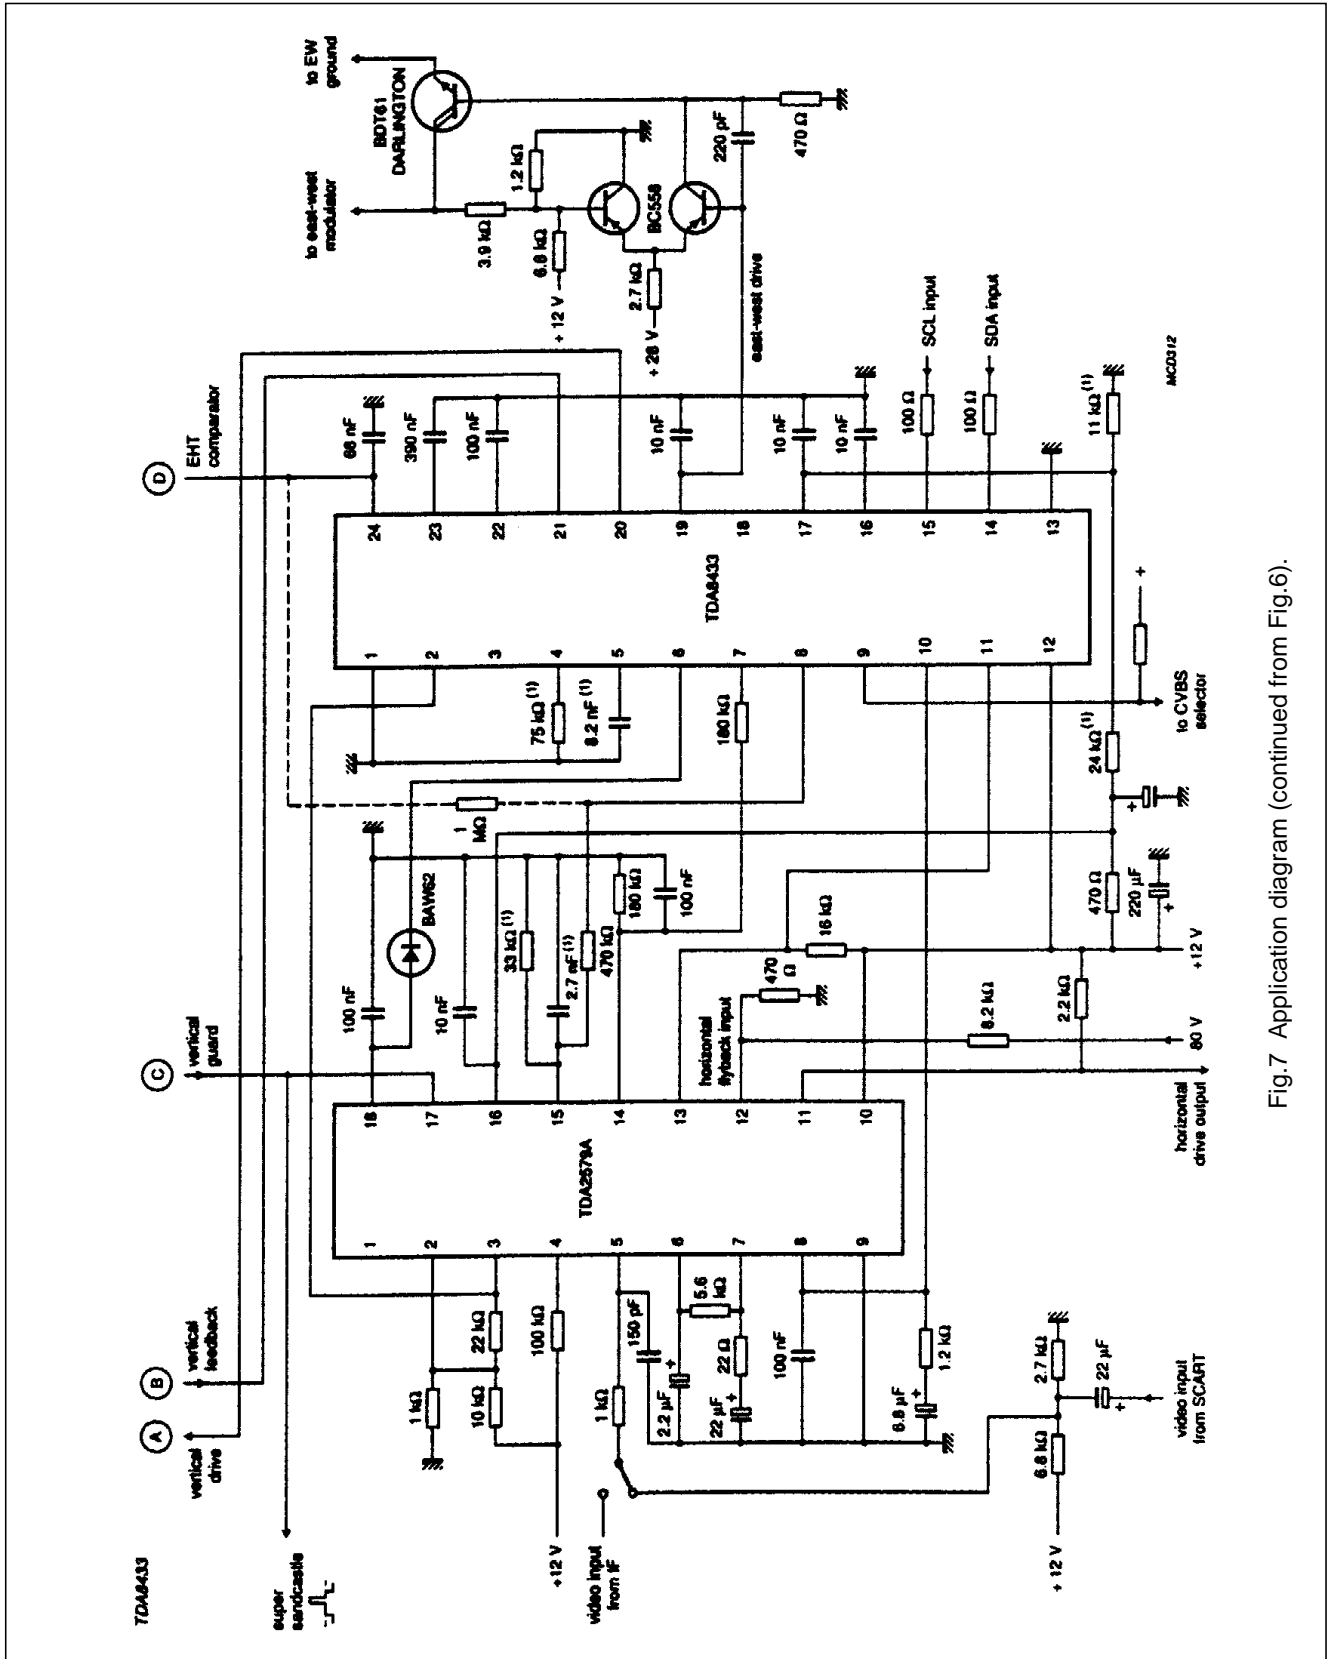

Fig.7 Application diagram (continued from Fig.6).
The formulae from which the typical vertical drive and typical E-W drive waveforms are generated are given in the following sub-paragraphs. For this purpose a typical application diagram for the vertical drive stage is assumed to be as illustrated in Fig.7. Pin 20 is the vertical drive output which drives an inverting power amplifier. The feedback network, R1 to R4 and C1 and C2, has two functions;
the peak-to-peak value of the linear sawtooth (see Fig.7).
The range for the V-S correction ( $SA^2$ ) is defined as a percentage of the undistorted peak-to-peak sawtooth voltage (see Fig.7). The actual S-correction component ( $SA^2$ ) is dependent on the picture height setting where:
- The maximum possible trapezium output is 1.6 V (typical - see Fig.7). This is the case where:  $a = 0.5$ ,  $c = 0$  and  $p = 1$  i.e. no corner correction and the maximum parabola correction at nominal picture height settings.